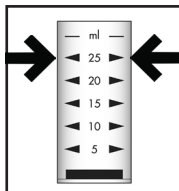

Figure 1
2. Dilute the contents of the sample cup to the **25 mL mark with distilled water** (fig. 1).